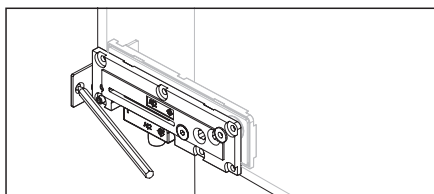

Fig. 9 Marking the drill holes
15. Position the overpanel and mark the mounting plate drill holes on the wall (Fig. 9).